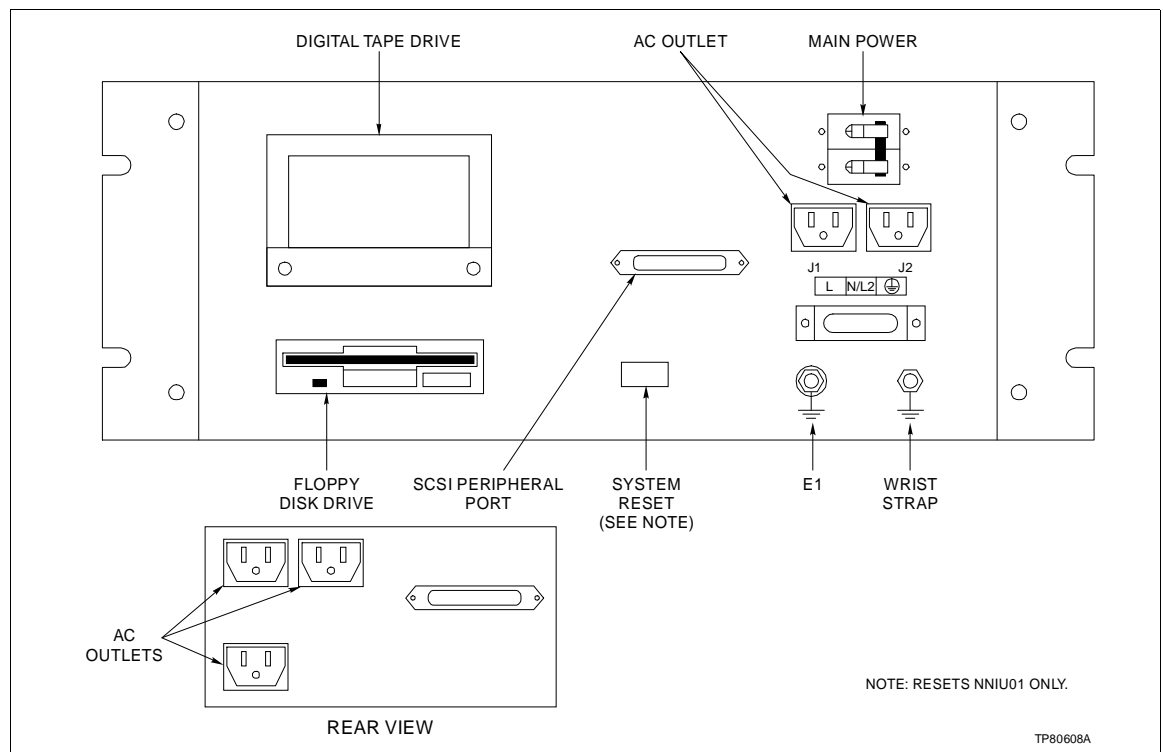
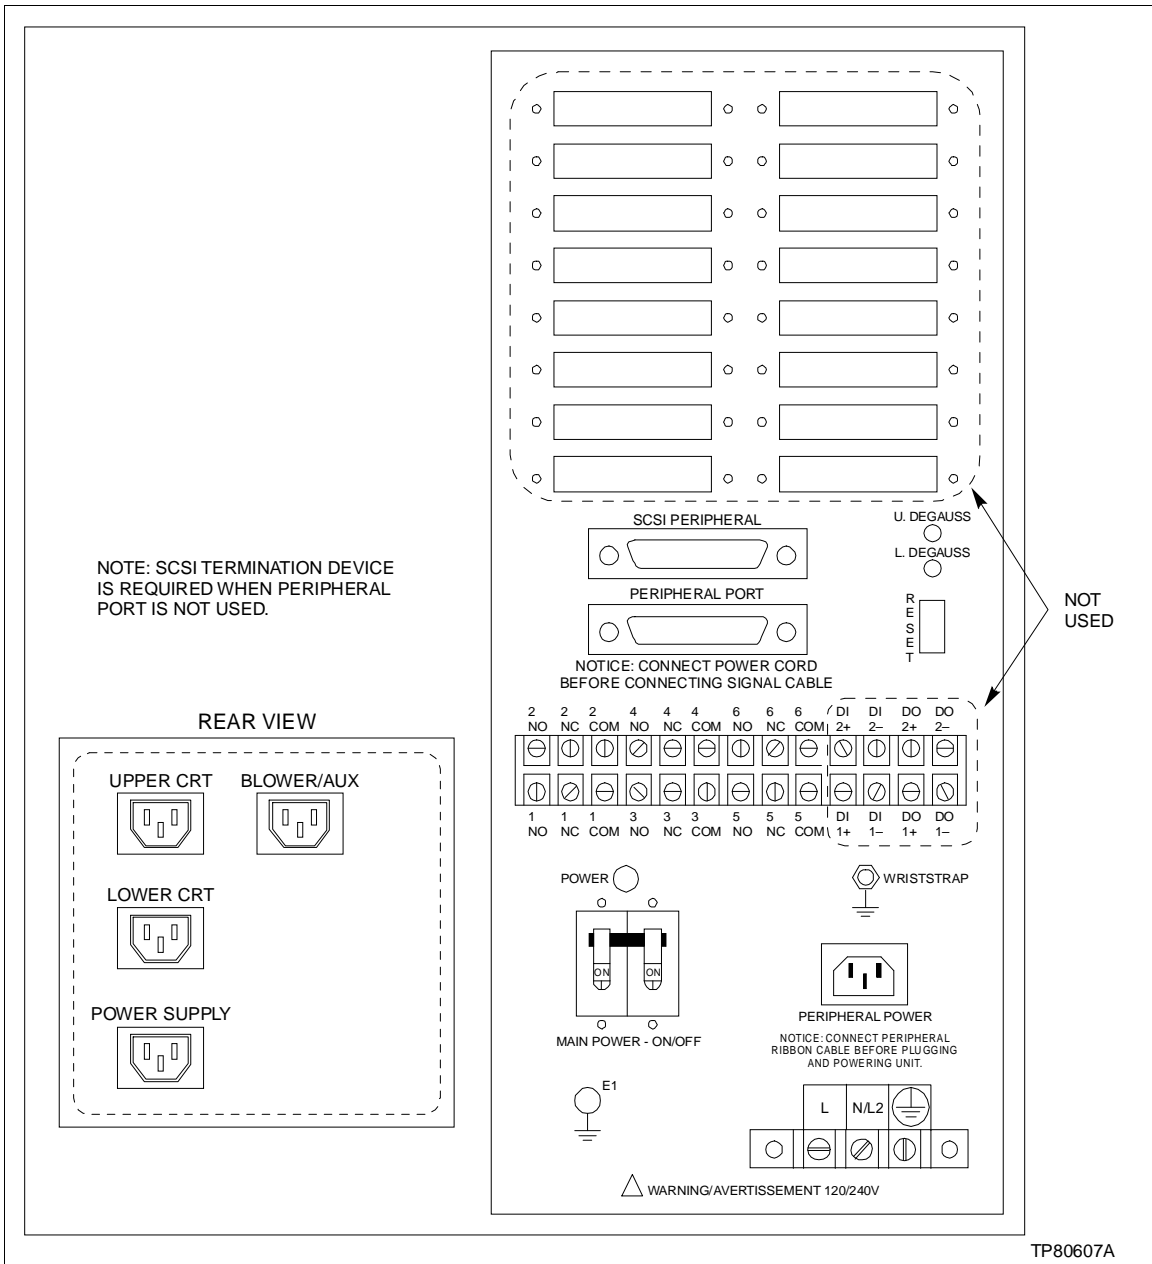

Figure 3-8. Driver Cabinet Power Entry Panel
Figure 3-9. Console Power Entry Panel
1. Wire AC power to the proper terminals at the front of the power entry panel. Refer to Figure 3-8 for AC input terminal location for OIS42 driver cabinets. Refer to Figure 3-9 for AC input terminal location for OIS42 consoles.